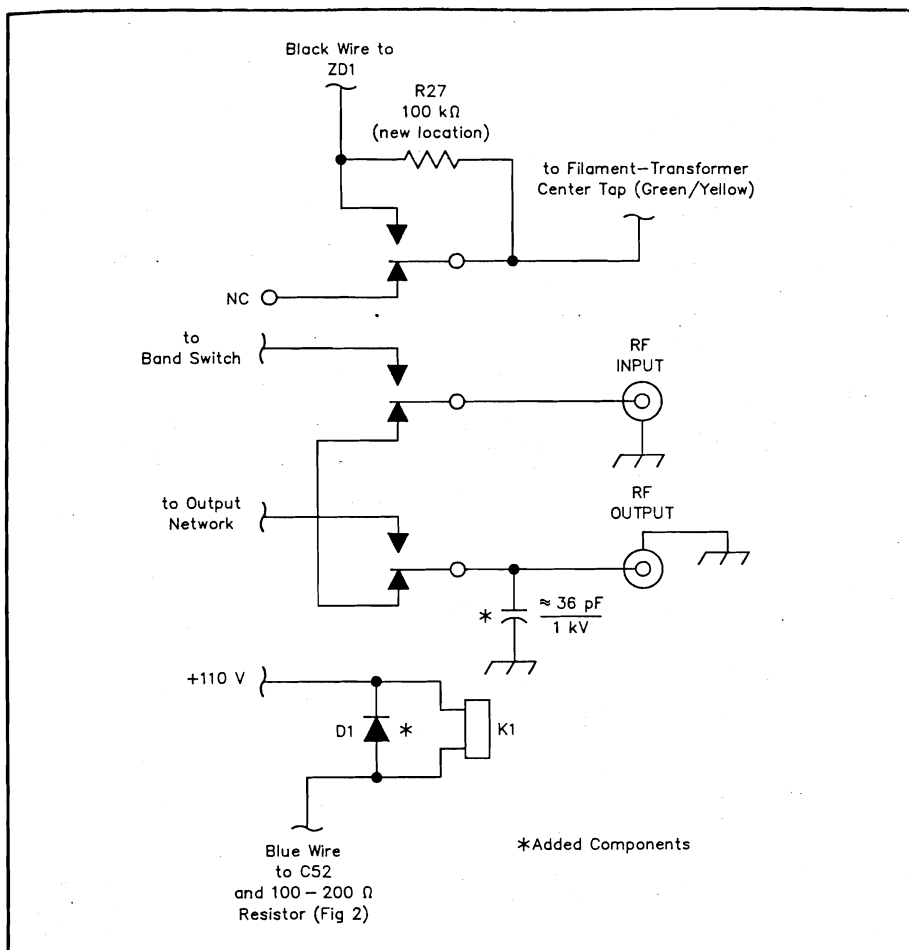

Fig 4—TR- and bias-switching-circuit modifications for the SB-220.
A single three-pole relay switches the amplifier in and out of the coaxial line during operation, and handles tube-bias switching as well. A few improvements are in order in this area. See Fig 4.
This potential source of grief can be eliminated if the relay is rewired as shown in Fig 4. This circuit uses resistor-cutoff bias, using the existing 100-k Ω resistor (R27), which is rewired to another relay terminal. The current through this resistor during receive is usually less than 0.25 mA (R27 dissipates less than 7 mW), so its ½-W rating is more than adequate.
- During "barefoot" operation on 10 meters, when the amplifier is switched off, the SWR presented to the rig by the amplifier is less than wonderful. This is due to the inductive reactance in the amplifier's TR relay. The relay's inductive reactance can be canceled by adding capacitive reactance between a relay terminal and chassis ground (see Fig 4). The required capacitor